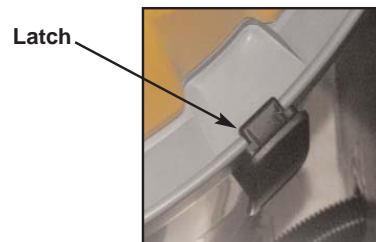

figure 1
3. Remove the Vacuum system cover and open the vacuum system by releasing the two (2) latches and removing the vacuum head. (see figure 1)